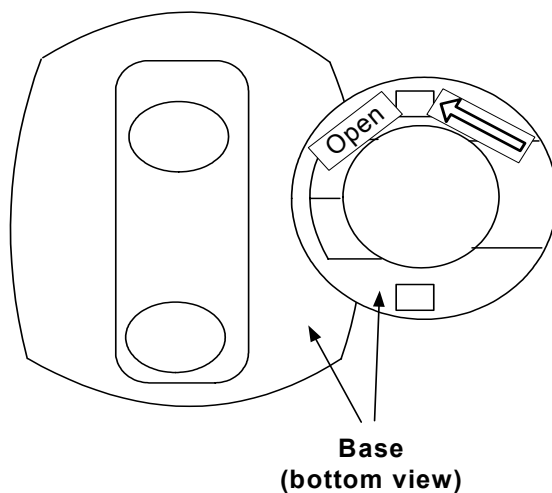

Fig. 2-1.
a. Put the “OPEN” (P/N LBL10012) and Arrow label (P/N LBL10013) on the Coupler Base as shown on the Fig. 2-1.